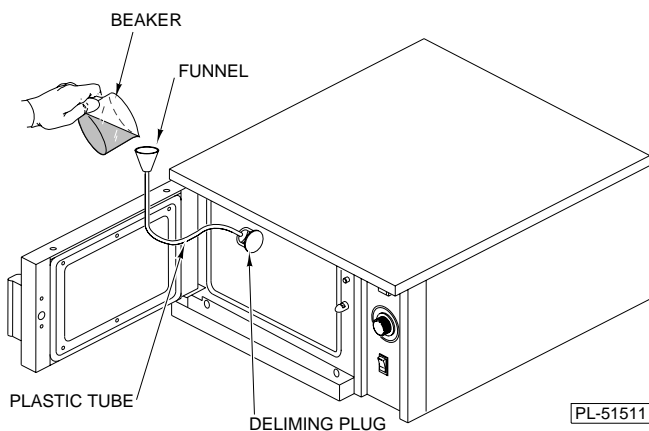

Fig. 4
**STEP 2.** If the Deliming Plug is inside the cooking compartment (Fig. 4), unscrew the plug so the hole points upwards.